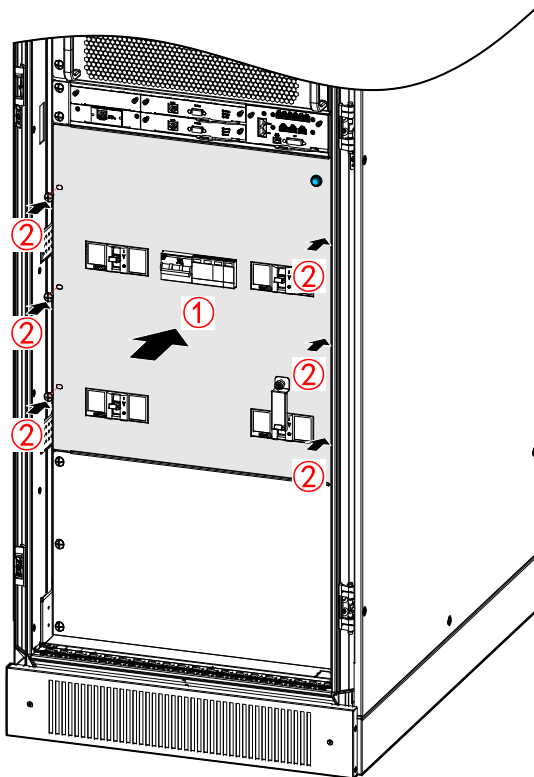

Figure3-23 Install the surge protection device plate
- Step 7 Install the surge protection device plate, as shown in Figure3-23.